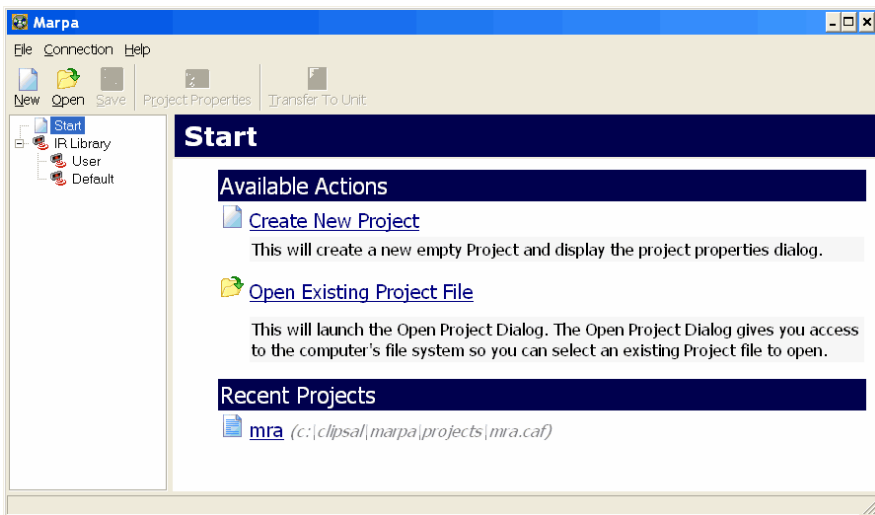

Figure 39 – The MARPA start-up window
1) Start MARPA and choose the Create New Project action (Figure 39).